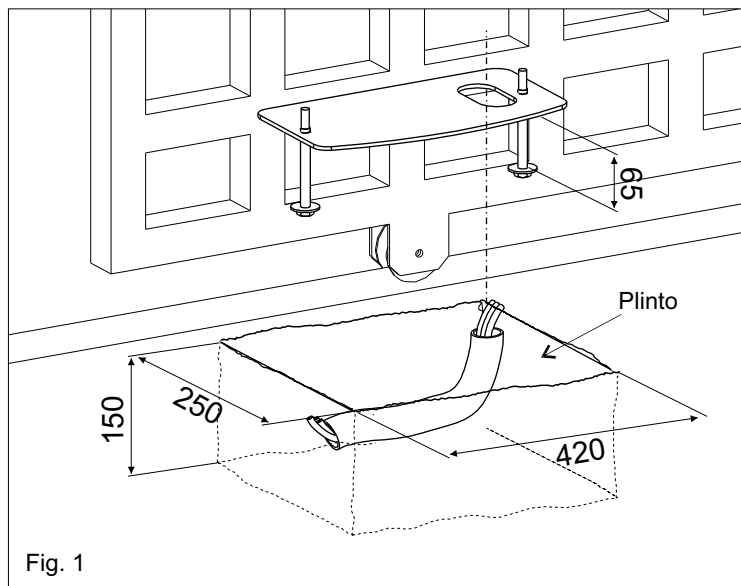

Fig. 1
**2.1.** Prepare a concret basement with the dimensions shown in Fig. 1 where the foundation plate and the anchor bolts will be concreted.
**NOTE:** It is recommended, gate structure permitting, to lift the foundation plate about 50mm from the ground, in order to avoid eventual water stagnation (Fig.1)